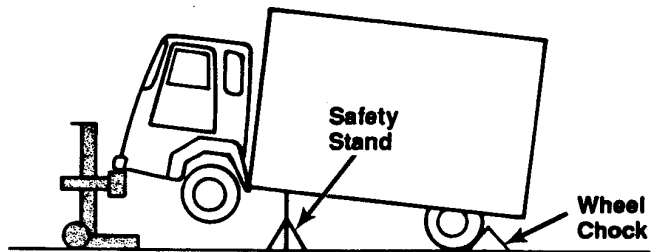

Figure 1
- After raising a load, never place any part of your body under the load or the lift. Never begin work on a vehicle until it is correctly supported by approved safety stands. See Figure 1.